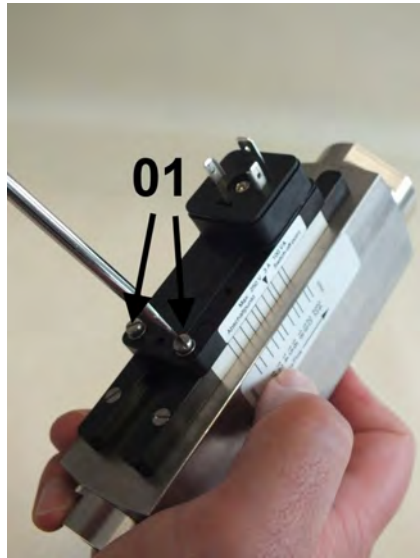

Fig. 63: Loosen set screws
3. ➤ Using a flat-bladed screwdriver (Fig. 63/01) loosen the set screws of the switch contact until it can move freely.
11. ➤ Tighten the set screws (Fig. 63/01) observing the proper tightening torque of the screws ( *Chapter 11.1 "Tightening torque" on page 83*)